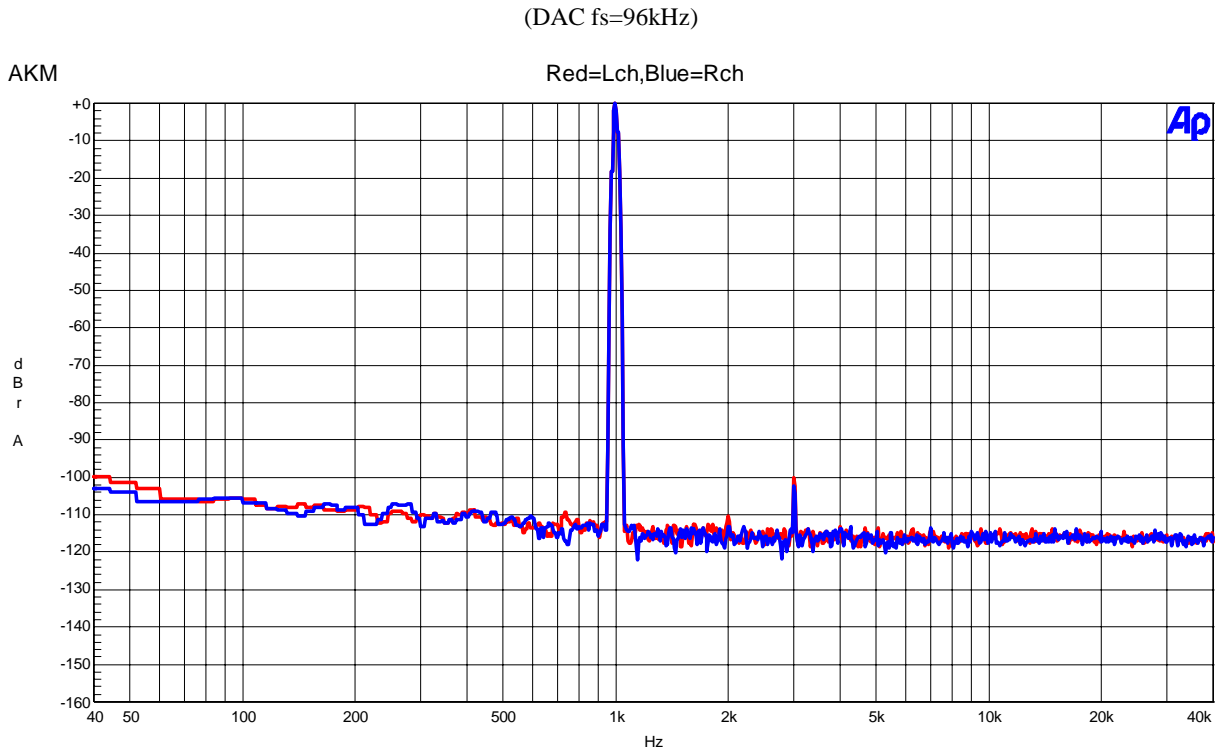

Figure 33. FFT(Input Frequency=1kHz, Input Level=0dBFS)
- Figure 33. FFT (Input Frequency =1kHz, Input Level =-60dBFS)